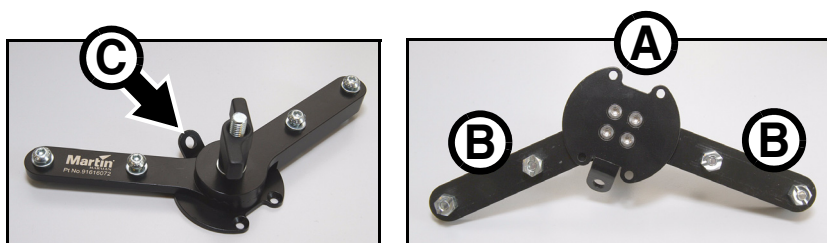

Figure 6: VDO Dotron to Sceptron Pivot Coupler
1. See Figure 6. Pass four grade 8.8 (or equivalent strength) M4 x 8 mm countersunk screws through the four holes **A** in a Dotron to Sceptron Pivot Coupler and fasten them into the back of the Dotron. Use a torque driver to tighten to 2.5 Nm.